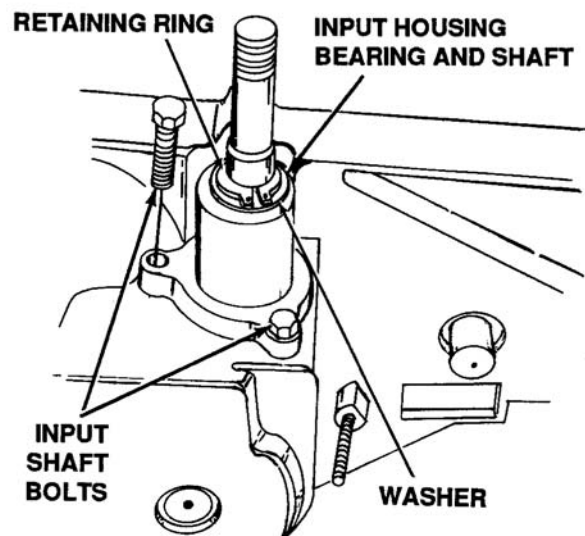

Figure 6-29. Input Housing Bearing and Shaft
- Remove retaining ring from input shaft. See Figure 6-29.